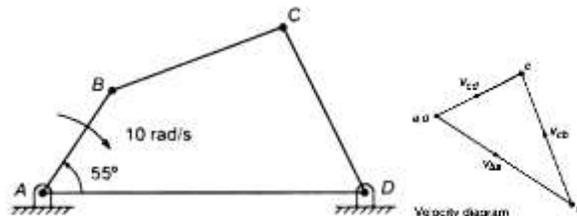

Figure 6
b) In the four-bar mechanism shown in figure 6, the lengths of the various links are: 10 CO2 [K4]